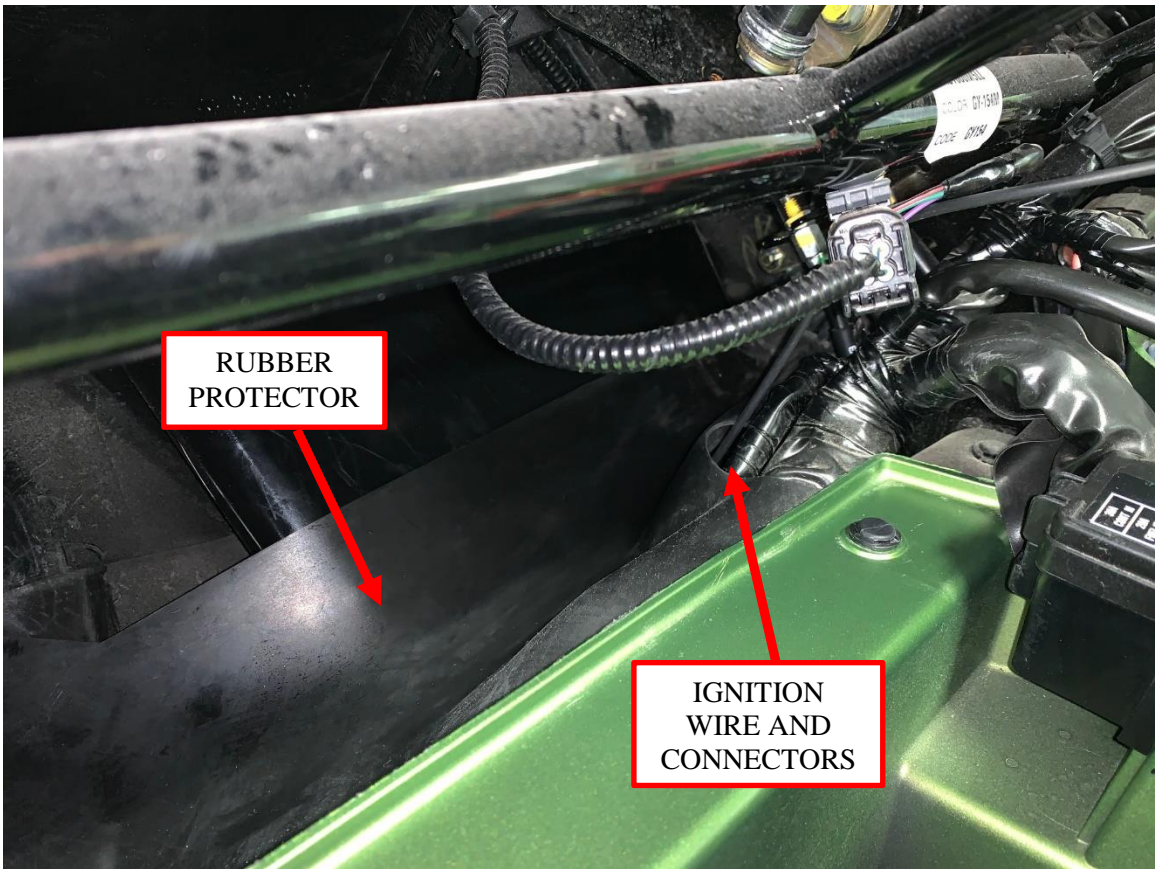
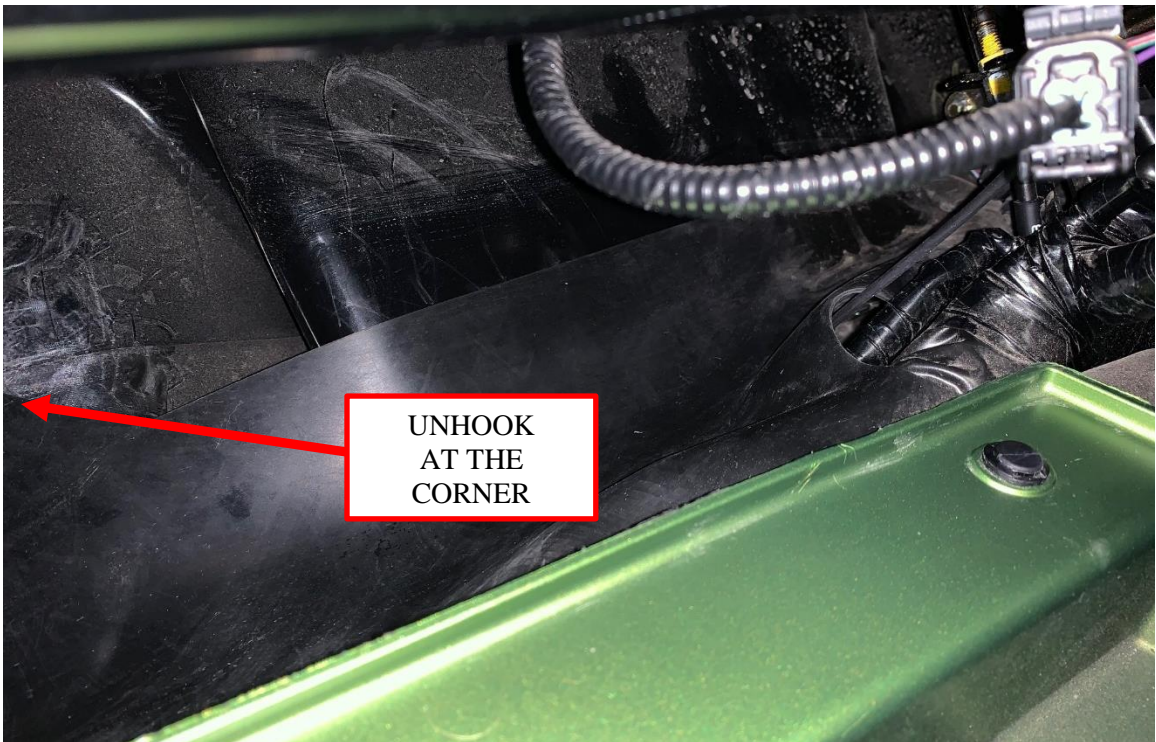

Figure 13: Ignition wire and connector routing.
Figure 14: Rubber protector access location.
11. Run the orange ignition wire, with the two attached connectors, through the hole in the rubber protector (with the factory wire harness). The connectors are accessible under the rubber protector by lifting the left rear corner of the rubber protector. See Figure 13 and Figure 14.